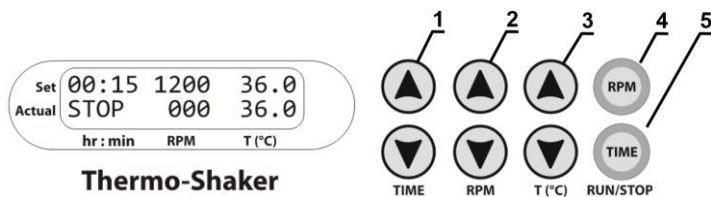

Figure 1. Control panel
- 5.4.1. **Setting time (TIME).** Use the ▲ and ▼ **TIME** keys (fig. 1/1) to set the required working time interval in hours and minutes (increment 1 min).
- 5.4.2. **Setting speed (RPM).** Use the ▲ and ▼ **RPM** keys (fig. 1/2) to set the required speed (increment 10 rpm).
- 5.4.3. **Setting temperature (T, °C).** Use the ▲ and ▼ **T, °C** keys (fig. 1/3) to set the necessary temperature (increment 0.1°C).
- 5.6. Press the **RPM RUN/STOP** key (fig. 1/4). The platform will start rotating and the timer indicator will start counting up the time interval (with 1 min precision).
- 5.9. If required, there is possibility to restart the timer when it is running. Press the **TIME RUN/STOP** key once (fig. 1/5) to stop the timer. Press the **TIME RUN/STOP** key again to restart the timer.
Caution! At the end of the set time period the platform movement is stopped automatically, but the heating can be stopped only operating instructions by reducing the temperature using the **▼ T, °C** key (fig. 1/3 - lower key) till the **OFF** sign appears in the upper line (Set) of the display